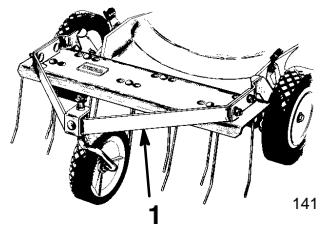

Figure 27
3. **Dethatcher Kit**—Front mounted for easy maneuverability (Fig. 27). Spring tines loosen thatch for clean vacuuming into grass bag and convenient disposal.